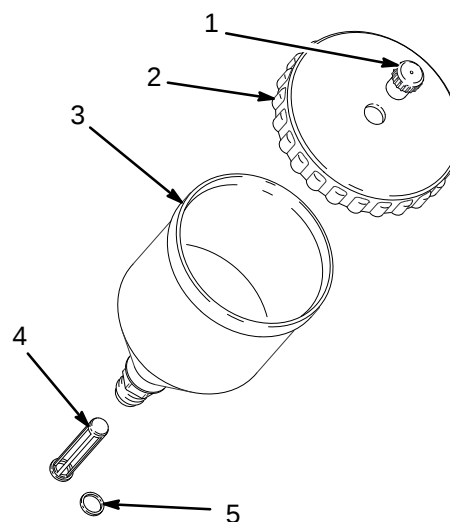

Fig. 1
1. Insert the fluid filter (4) into the cup outlet if the fluid requires filtering or install the washer (5) into the gun fluid fitting. See Fig. 1.